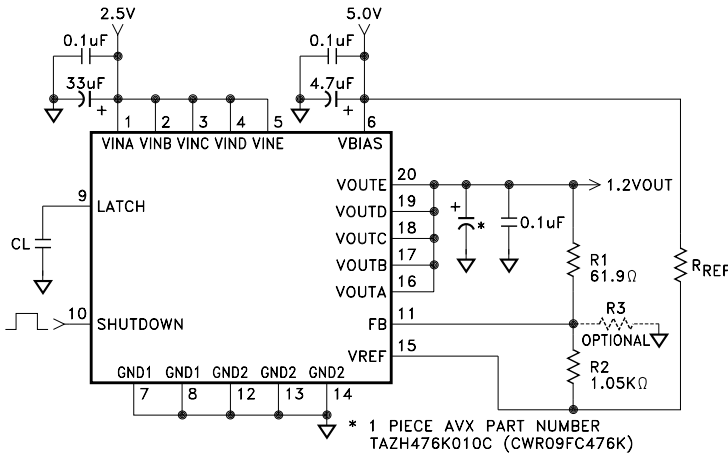

FIGURE 1
- ① Unless otherwise specified, V_{BIAS} = V_{IN} = 3.3V, R₁ = 61.9Ω, R_{REF} = 249Ω (see figure 1), V_{SHUTDOWN} = 0V and I_{OUT} = 10mA.
- ② Guaranteed by design but not tested. Typical parameters are representative of actual device performance but are for reference only.
- ③ Industrial grade and "E" suffix devices shall be tested to subgroups 1 and 4 unless otherwise requested.
- ④ Military grade devices ("H" suffix) shall be 100% tested to subgroups 1,2,3 and 4.
- ⑤ Subgroup 5 and 6 testing available upon request.
- ⑥ Subgroup 1,4 T_C = +25°C
For output voltages below the minimum feedback voltage tolerance of 1.225V, R3 as shown in Figure 1 can be omitted. Output voltage can be calculated as follows:
For output voltages close to the feedback voltage tolerance of 1.225V-1.305V, a three resistor network may be used to improve adjustment capabilities and trim out initial feedback voltage tolerances. Reference Figure 1.